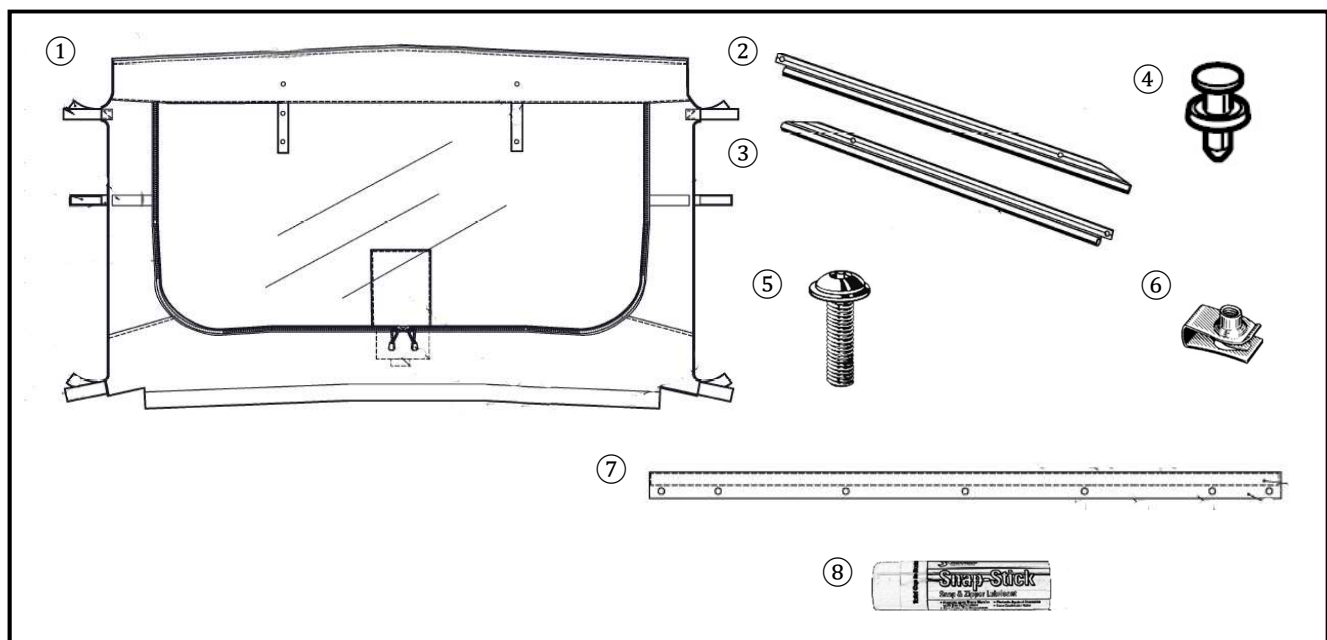

Fig. 1
2. Slide on both ② and ③ P-Channel brackets onto the top of the ① Rear Window Assembly. The inner mounting holes will overlap and attach to the center hole in the Sun Top. (Fig. 1)
3. Lift the ① Rear Window Assembly in place and thread in three M6x16mm Button Head Screws. The center one first. Torque to 5Nm (0.5 m-kg or 3.6 lb-ft)
4. Lift the dump bed to the up position and allow the ① Rear Window Assembly to drape behind the cab wall.
5. Center the ⑦ Hook and Loop Band across the front of the rear wall. Tape the Hook and Loop Band in place. Mark the holes and drill a 5/16" hole for each marked location.
6. Press and insert seven ④ Plastic Rivets in place across the ⑦ Hook and Loop Band.
7. Pull the ① Rear Window Assembly back into the cab.
8. Attach the Hook and Loop Straps around the B Pillar ROPS and then attach the lower edge of the ① Rear Window Assembly across the ⑦ Hook and Loop Band.